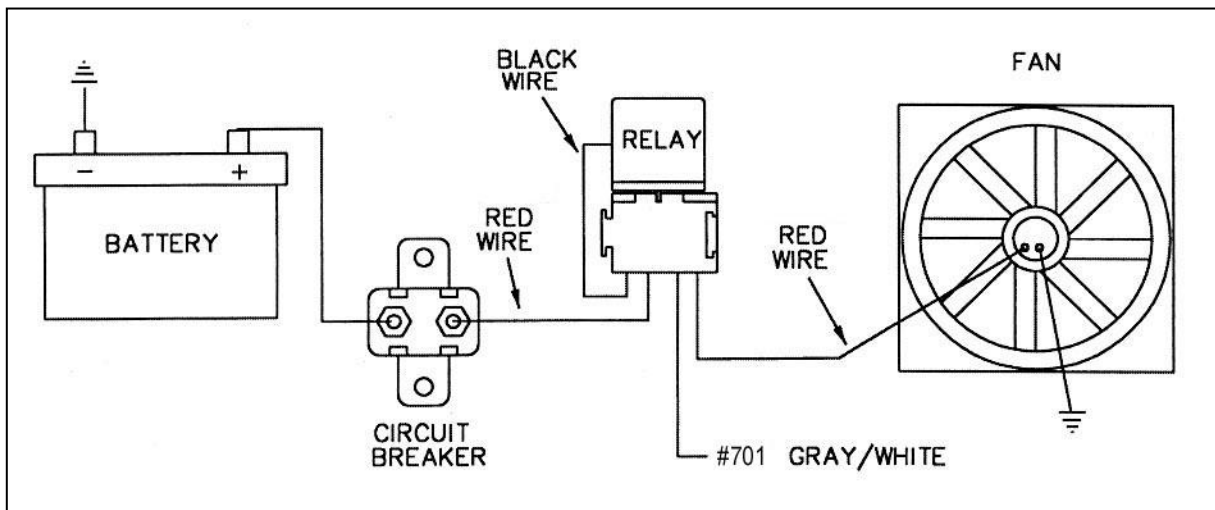

Figure 7.7 Fanless Fan Relay Kit (Part #50101)
- 7.6.4** Connect HEADLIGHT SECTION A wire #701 (gry/wht) to the Electric Fan Relay. This wire is an activation wire for the relay, **NOT A POWER FEED.** The other end of wire #701 is in the ACCESSORY SECTION SWITCHES and should be connected to the electric fan switch in the dash. **Figure 7.7** shows a typical fan relay installation.